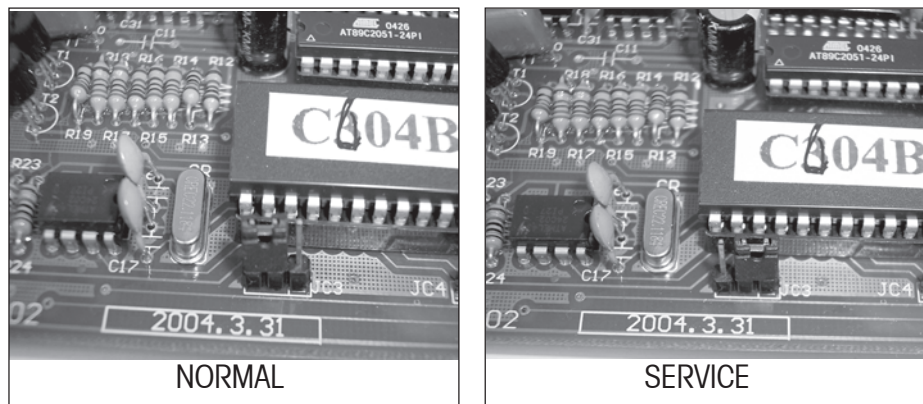

Figure A-1. Main PC Board Jumper Positions.
1. Open the scale housing and move the jumper to the service position as shown in Figure A-1.
6. Refer to Figure A-1 and return the jumper to the normal position.